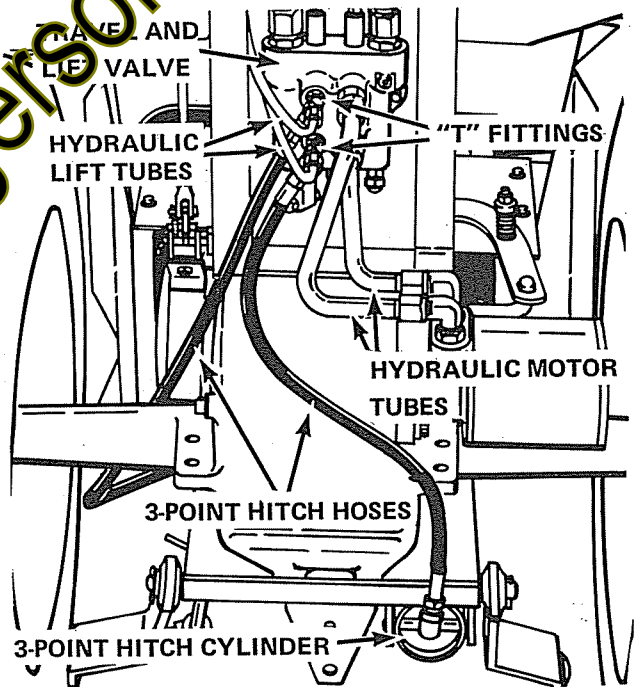

FIGURE 8
14. Turn the "T" fittings into the lift ports of the valve. With the fittings facing toward the right rear corner of tractor as shown in Figure 8 tighten the swivels against the valve housing.